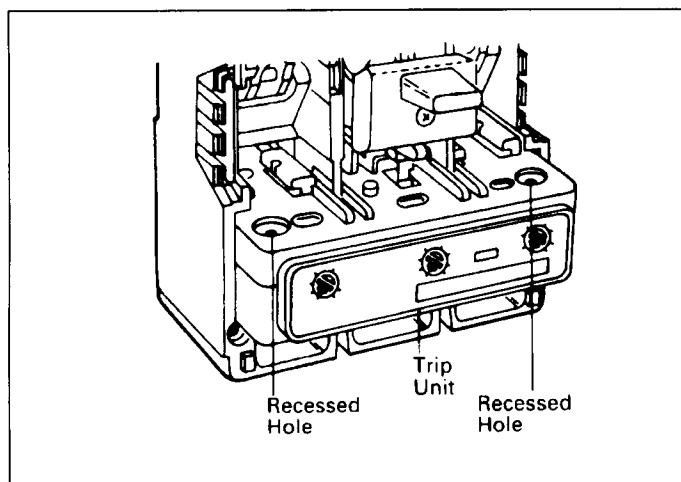

Fig. 2-2. Recessed Hole Location in K-Frame Trip Unit
- 2-5. For high instantaneous trip-type (catalog suffix K designation) molded case switches, locate recessed hole in either of the trip unit outer poles. (Fig 2-2). Push a fine point implement in one hole to trip the molded case switch.